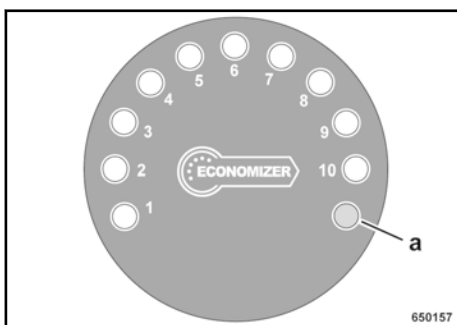

Fig. 56
The system first performs an LED-test. The LEDs light up one after the other, starting with LED (1) → Fig. 56. Once all LEDs are on, the display goes out again in single steps.